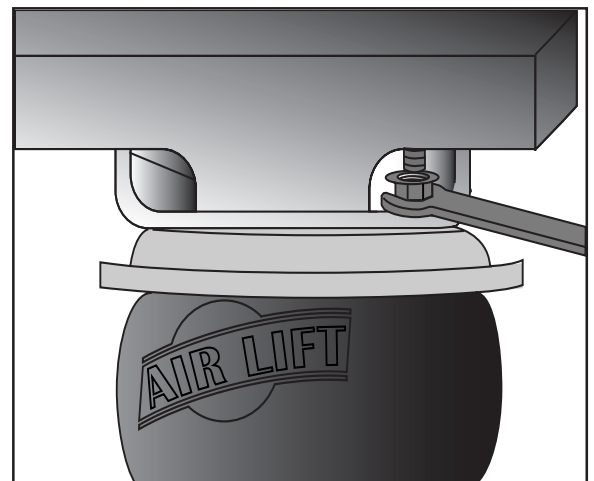

Figure 13
Put 3/8"x7/8" hex head bolts (I) with flat washers (M) down through the existing jounce bumper hole from the inside of the frame, and attach to the whiz nuts (Fig. 13). Leave loose for adjustment later.